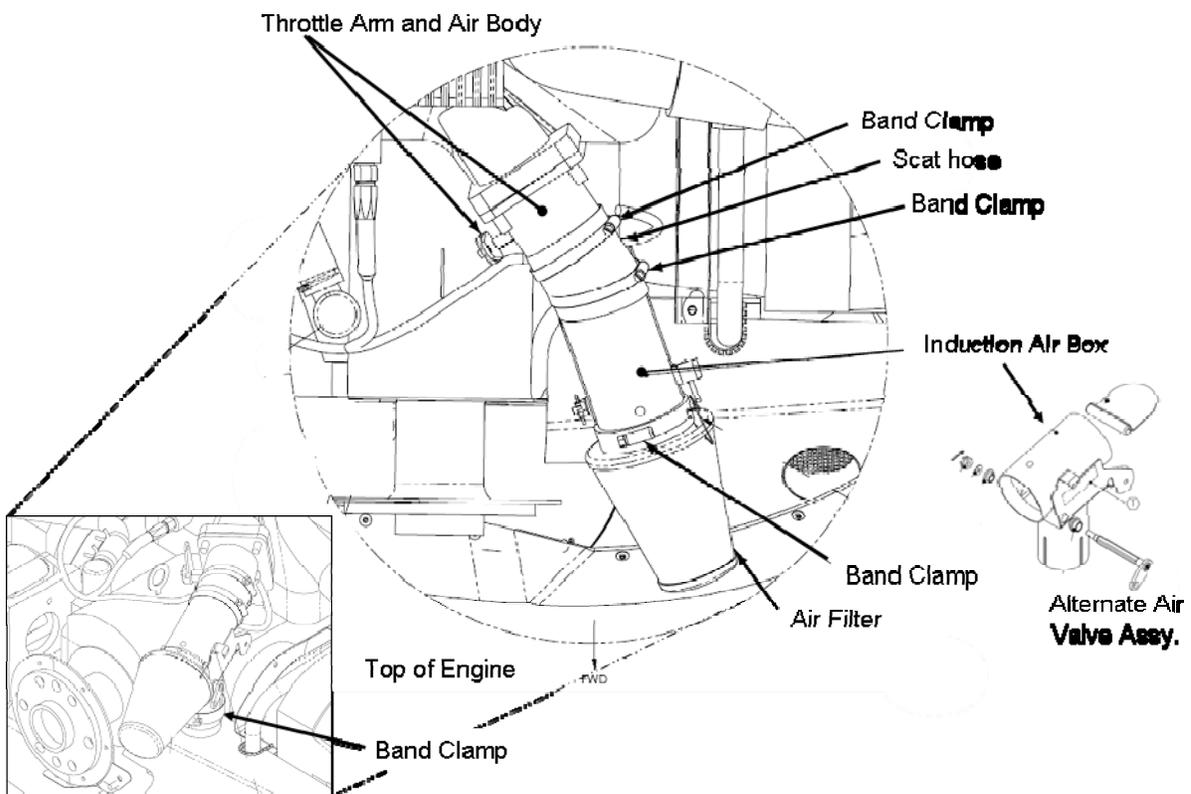

Figure 71-46 Air Induction System
15. Remove air filter by removal of .010 safety wire and the loosening of securing band clamp as shown in Figure 71-46.